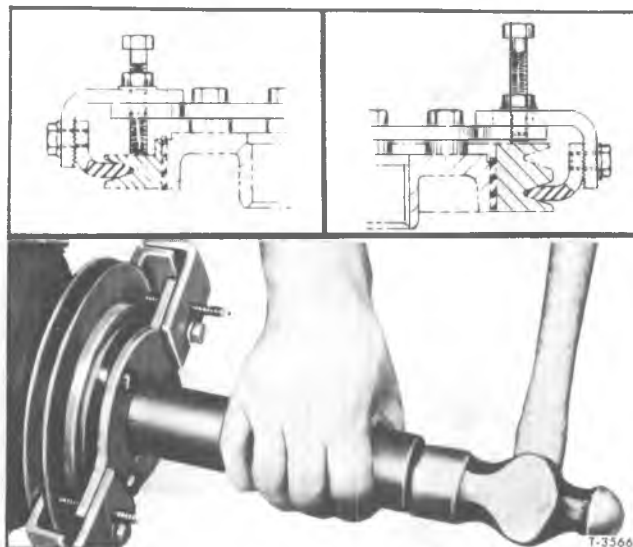

Figure 21—Installing Drive-On Type Crankshaft Damper
(1) Attach damper installer Tool (J-22197) to damper. Tighten fingers of tool to prevent inertia weight from moving (fig. 21).
(2) Position damper on crankshaft and drive into position until it bottoms against crankshaft gear. Remove installer tool.